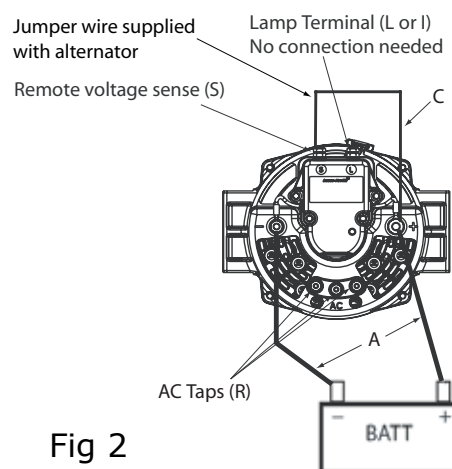

Fig 2
Two wire: Alternators that have two wires connected to them are self excite. The two wires connected to the alternators are the positive and negative cables. When connecting our alternators use Fig 2 to properly connect these alternators. A jumper wire is supplied to connect the alternator (S) terminal to the (B+) terminal.